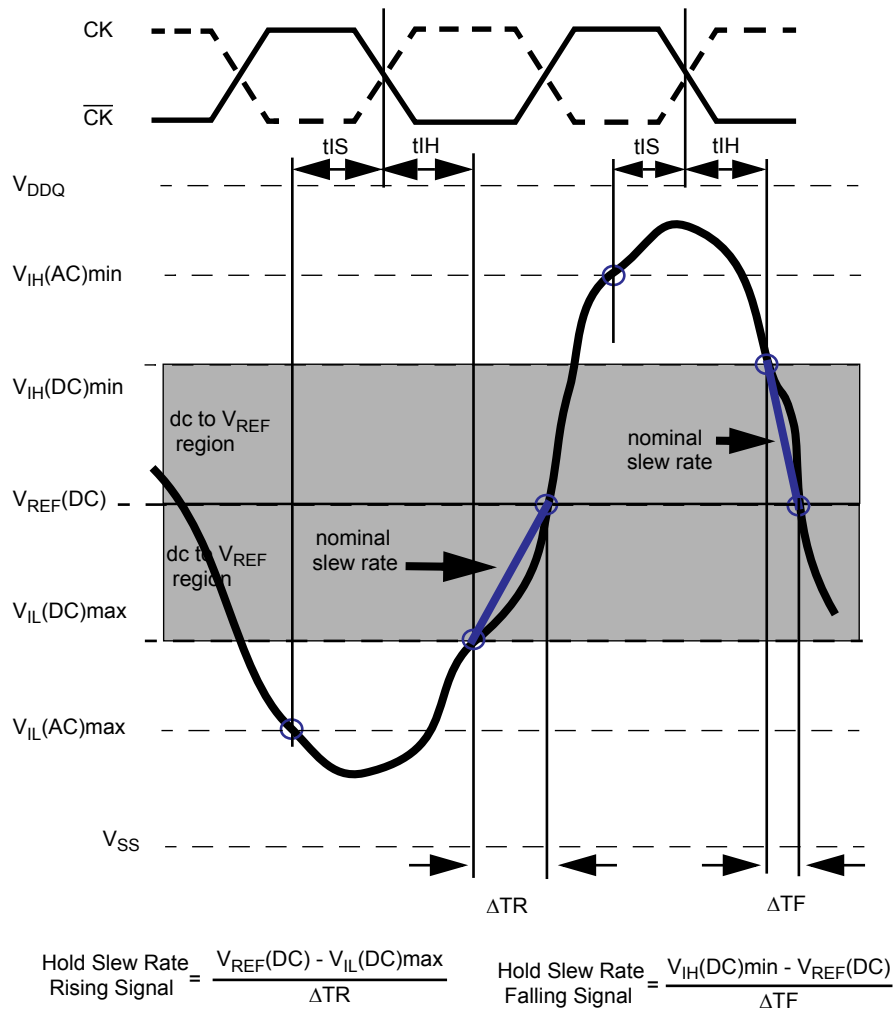
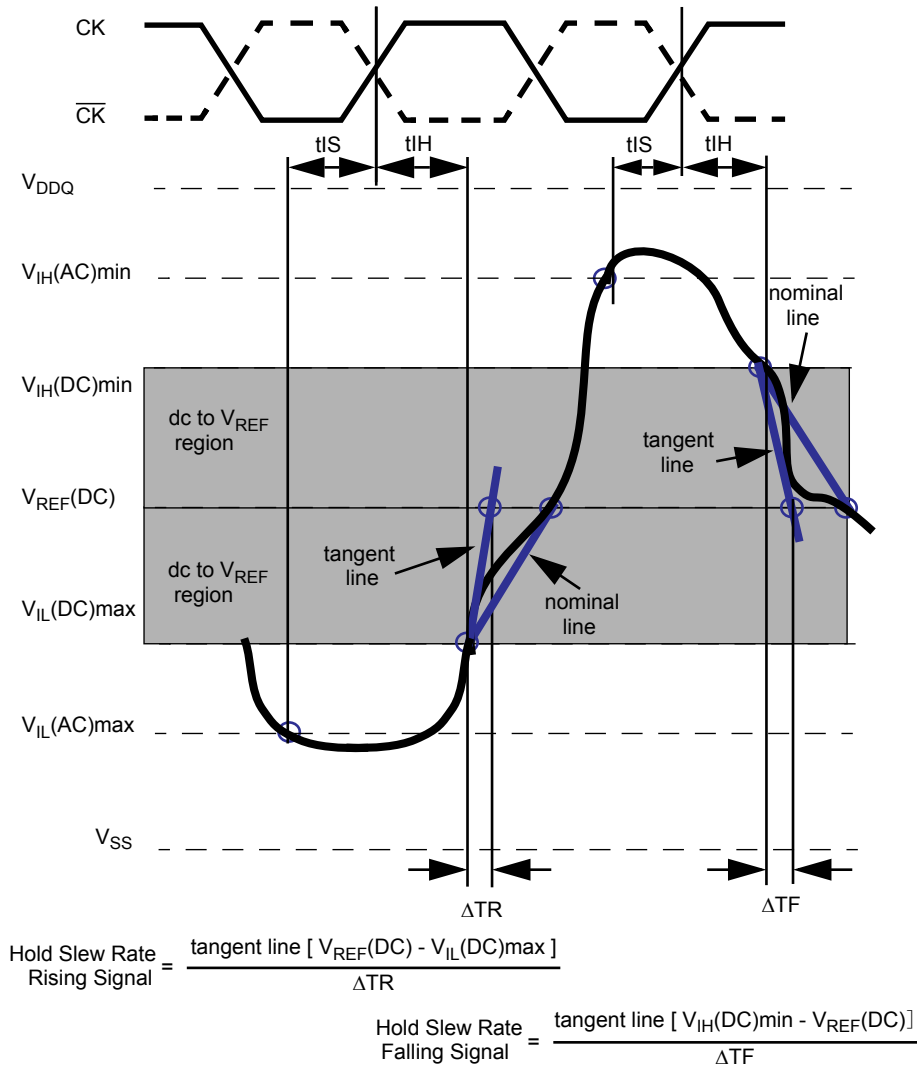

Figure 17. Illustration of nominal slew rate for  $t_{IH}$
Figure 18. Illustration of tangent line for tH
Hold (tIH) nominal slew rate for a rising signal is defined as the slew rate between the last crossing of VIL(DC)max and the first crossing of VREF(DC). Hold (tIH) nominal slew rate for a falling signal is defined as the slew rate between the last crossing of VIH(DC)min and the first crossing of VREF(DC). If the actual signal is always later than the nominal slewrate line between shaded 'dc to VREF(DC) region', use nominal slew rate for derating value (see Figure 17). If the actual signal is earlier than the nominal slew rate line anywhere between shaded 'dc to VREF(DC) region', the slew rate of a tangent line to the actual signal from the dc level to VREF(DC) level is used for derating value (see Figure 18).